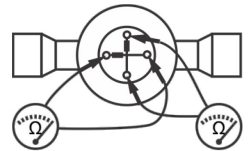

Fig. 5
- For motor check, remove cable plug from valve. Use an ohmmeter with suitable range. Measure windings resistance per phase at opposite placed pins acc. Fig. 5 and data as in the table below.